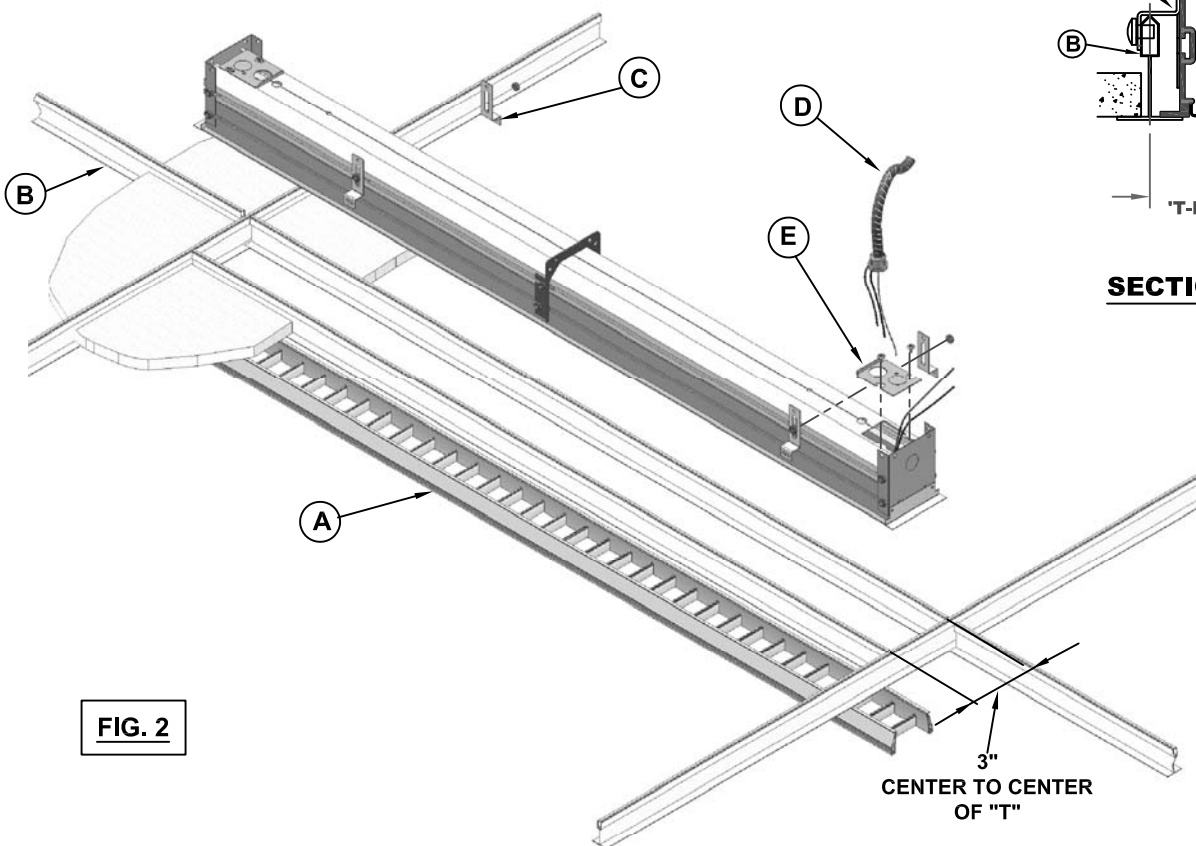

FIG. 2
REMOVE ACCESS PLATE (E) AND PULL FIXTURE LEADS OUT THROUGH OPENING. REMOVE KNOCK-OUT FROM ACCESS PLATE AND INSTALL CONDUIT FEED CONNECTOR (D) TO ACCESS PLATE. ATTACH GROUND WIRE TO INSIDE OF ACCESS PLATE AND MAKE OTHER WIRE CONNECTIONS MAINTAINING COLOR CODING OF WIRES. PUSH EXCESS WIRE INTO FIXTURE HOUSING AND SECURE ACCESS PLATE TO HOUSING INSURING THAT WIRES ARE NOT PINCHED BETWEEN FIXTURE AND ACCESS PLATE. (REF. FIG.2)